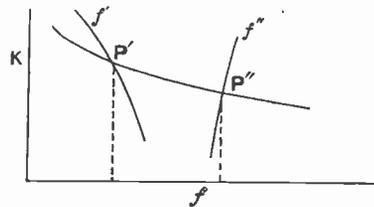

Fig. 14b.
A further ambiguity arises in the calculation of  $f'$  and  $f''$  owing to the variation of  $K$  with frequency, but this is also satisfactorily solved by a graphical method. Having determined  $f_1$  and  $f_2$ , as just described,  $f'$  and  $f''$  are plotted as functions of  $K$  according to (30) and (31). The functional relation between  $K$  and frequency as determined from the geometry of the transformer, etc., by formulæ (15), (32) and (33), is also plotted on the same sheet (see Fig. 14b). The intersections of this curve with the two curves of  $f'$  and  $f''$  as at  $P'$  and  $P''$  (Fig. 14b) determine the values of  $f'$  and  $f''$  at which the resonant humps occur.